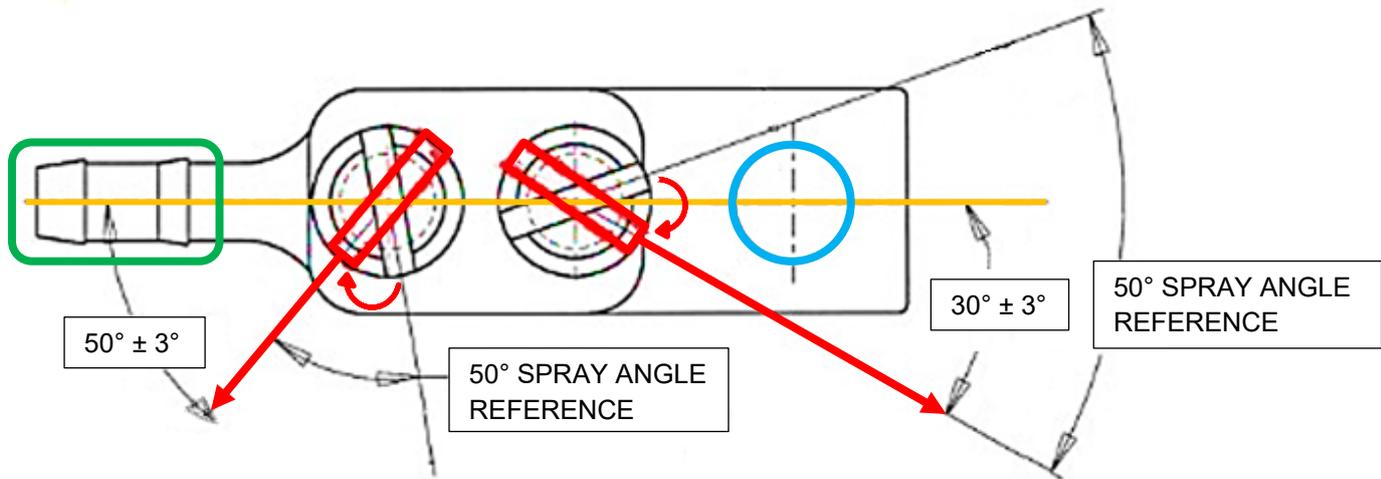
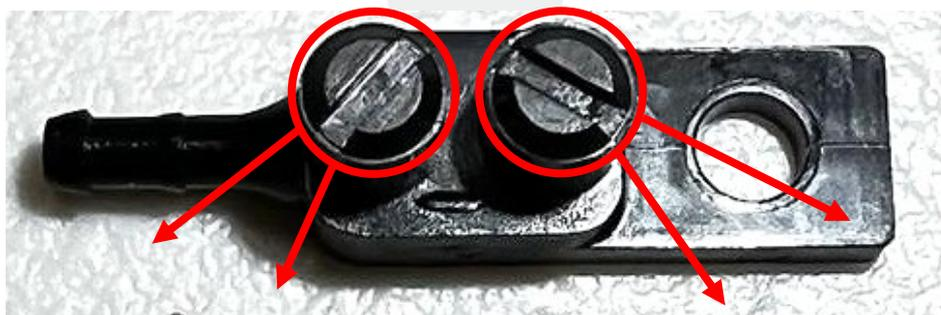

Figure 11
Figure 12 – Correct windshield washer nozzle cap positions and jet stream spray directions
- a. Use a flathead screwdriver to rotate the windshield washer nozzle caps (x2) as shown in Figure 11 (red).
- For the cap closest to the washer nozzle mounting hole (Figure 11, blue), the washer nozzle jet stream must be pointed $30^\circ \pm 3^\circ$ clockwise from the centerline (Figure 11, orange) of the washer nozzle (Figure 12).
- For the cap closest to the washer nozzle barb (Figure 11, green), the washer nozzle jet stream must be pointed $50^\circ \pm 3^\circ$ counterclockwise from the centerline of the washer nozzle (Figure 12).